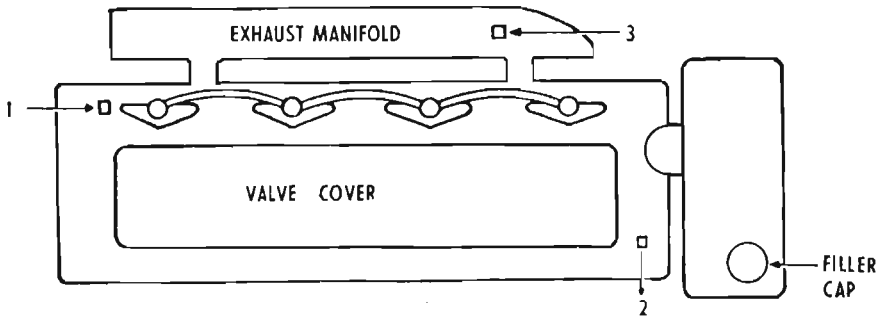

Fig. 15. Coolant Bleeding Points on Earlier Engines.
1. Remove the square headed plugs in the top faces of the cylinder head and exhaust manifold marked 1, 2, and 3 in fig. 15 and add water steadily to the cooling system header tank.